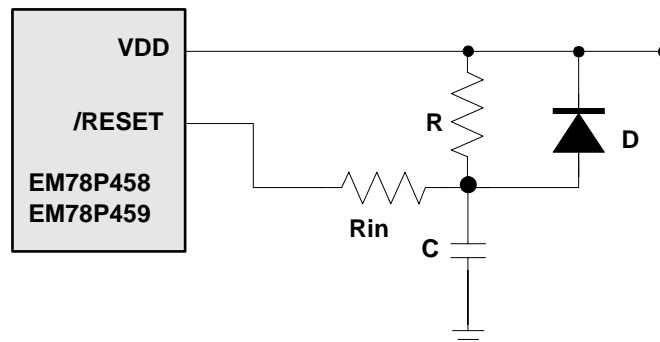

Fig. 22 External Power on Reset Circuit
The circuit shown in Fig. 22 implements an external RC to produce a reset pulse. The pulse width (time constant) should be kept long enough to allow V_{DD} to reach minimum operation voltage. This circuit is used when the power supply has a slow rise time. Because the current leakage from the /RESET pin is about ±5μA, it is recommended that R should not be great than 40 K. In this way, the voltage at Pin /RESET is held below 0.2V. The diode (D) acts as a short circuit at power-down. The capacitor, C, is discharged rapidly and fully. R_{in}, the current-limited resistor, prevents high current discharge or ESD (electrostatic discharge) from flowing into Pin /RESET.